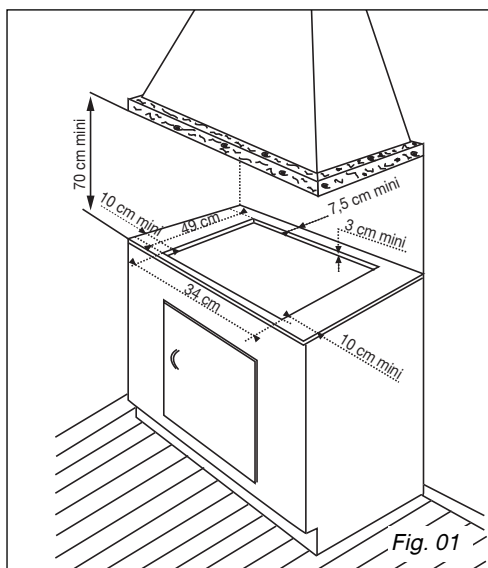

Fig. 01
– If you wish, you can immobilise the hob using the four mounting brackets delivered with a screw (Fig. 02) to attach them to the four corners of the housing. **You must use the holes provided for this purpose, according to the diagram above (Fig. 01).**